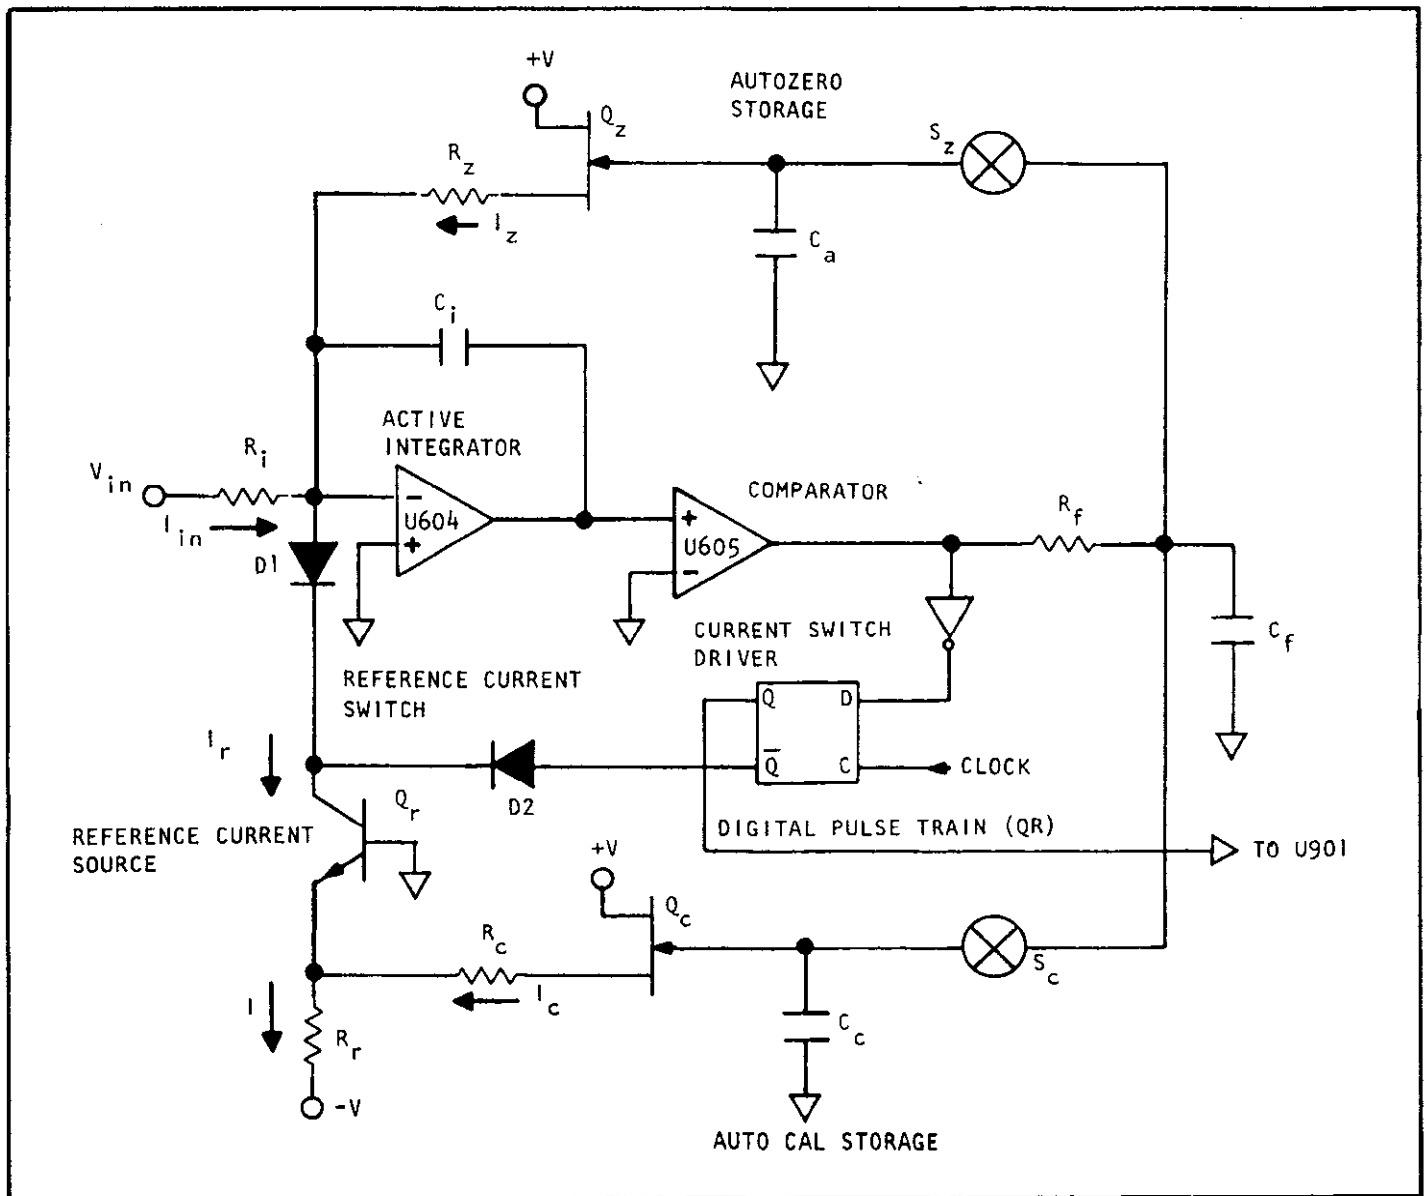

FIGURE 5-14. Simplified Schematic of the A/D Converter.
e. A/D Converter Simplified Schematic Description (Figure 5-14).